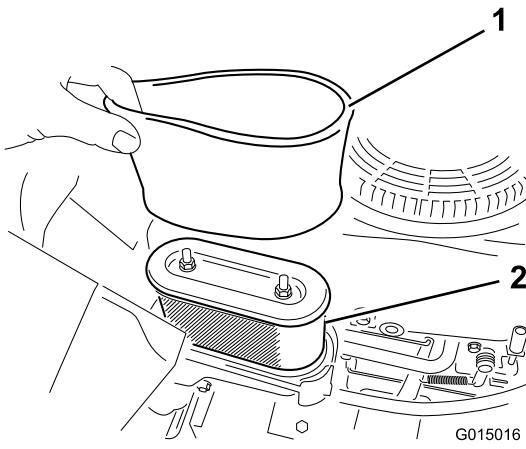

Figure 29
- Carefully remove the foam and paper filter elements from the air-cleaner housing (Figure 29).
1. Install the foam filter onto the paper filter (Figure 29).